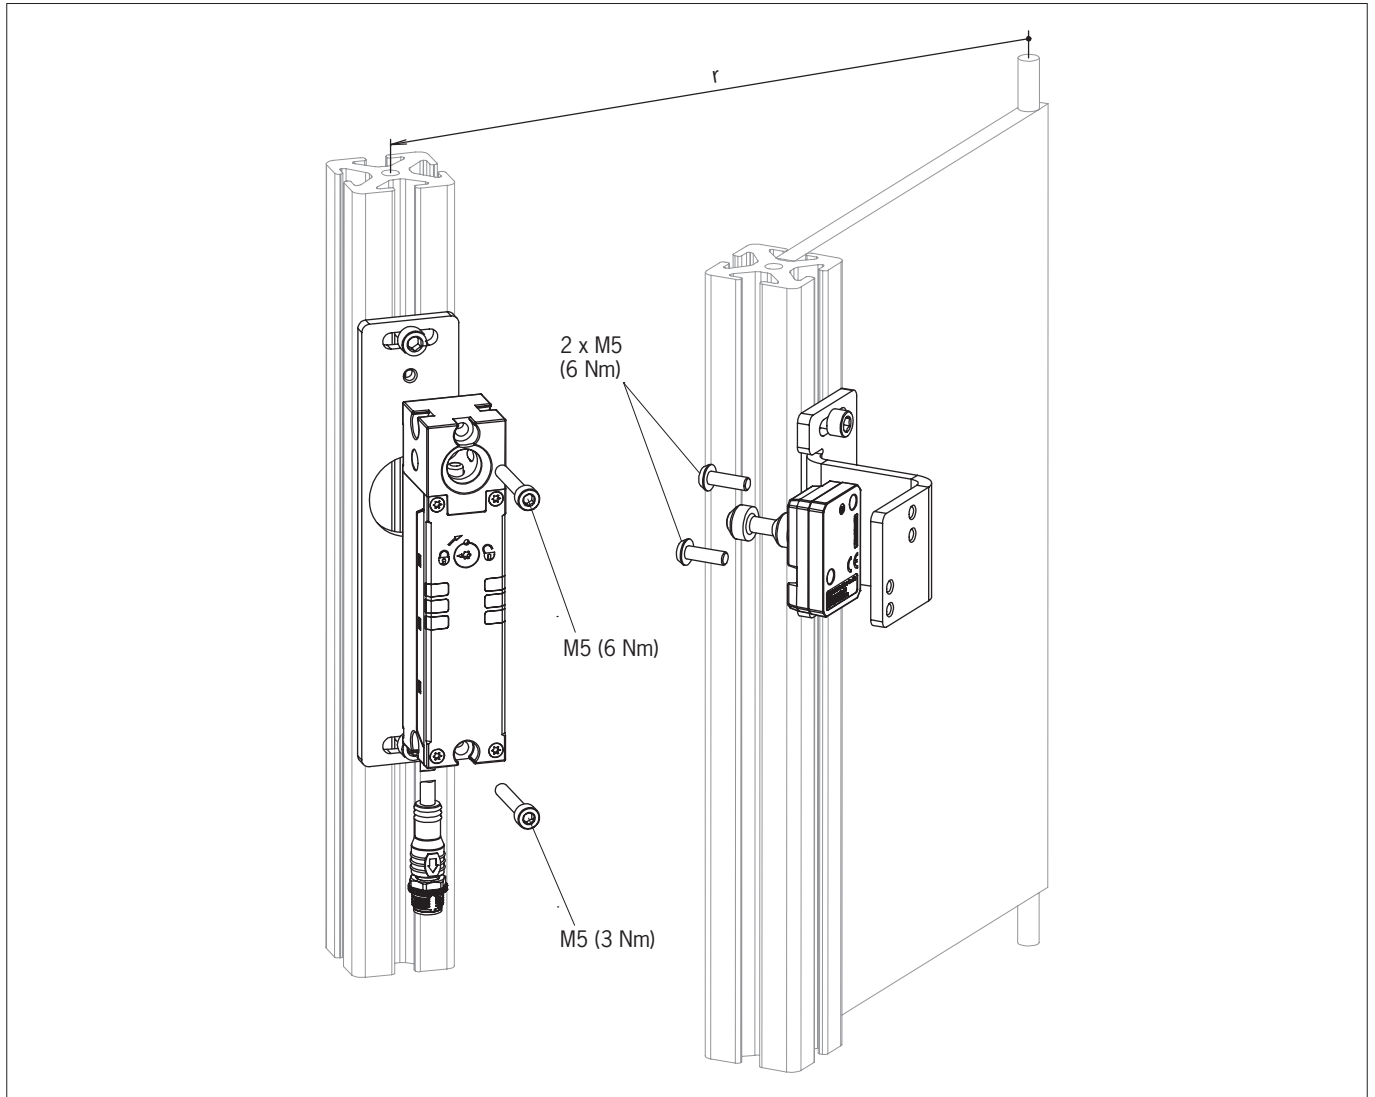

Fig. 3: Installation example
- › Observe the tightening torque for mounting the switch and the actuator (see Fig. 3):